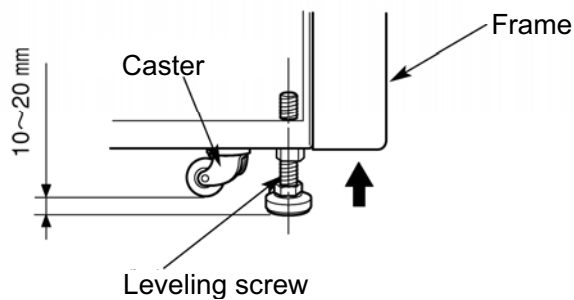

Fig.6-3 Leveling operation
- (1) Turn the four leveling screws with a wrench to lift the caster about 10 to 20 mm off the floor as shown in Fig. 6-3.
- (2) Turn on the POWER switch and open the chamber door. Then turn off the switch again. If the power cord is not yet connected, remove the front cover and then open the door according to the instructions given in Section 3-7, "Happenings when power failure occurs."